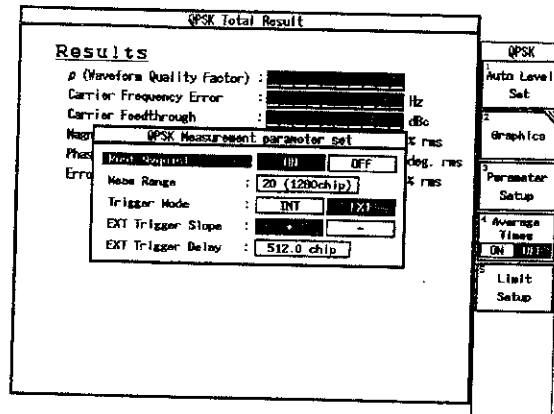

Figure 3-33 Setting of Parameter for W-CDMA Measurement Test
5. On the R3267/3273, set the parameter referring Figure 3-33.